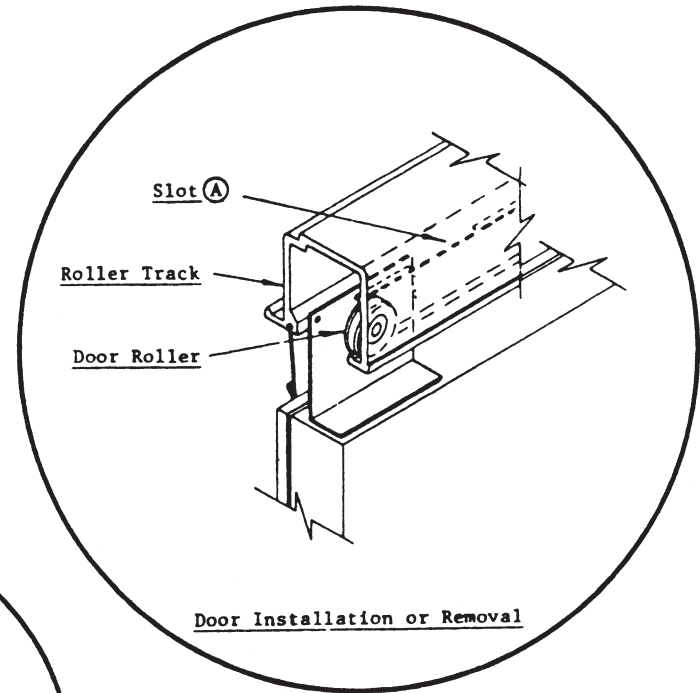

Fig. 4
(1) Slide Doors - Each door has its own Closing Spring located at the top and is positioned for Proper Tension. However if adjustment is required remove doors as follows:
- a. Locate Door Rollers under slot (A) show in fig. 4, and lift door off track while tilting bottom of door out.